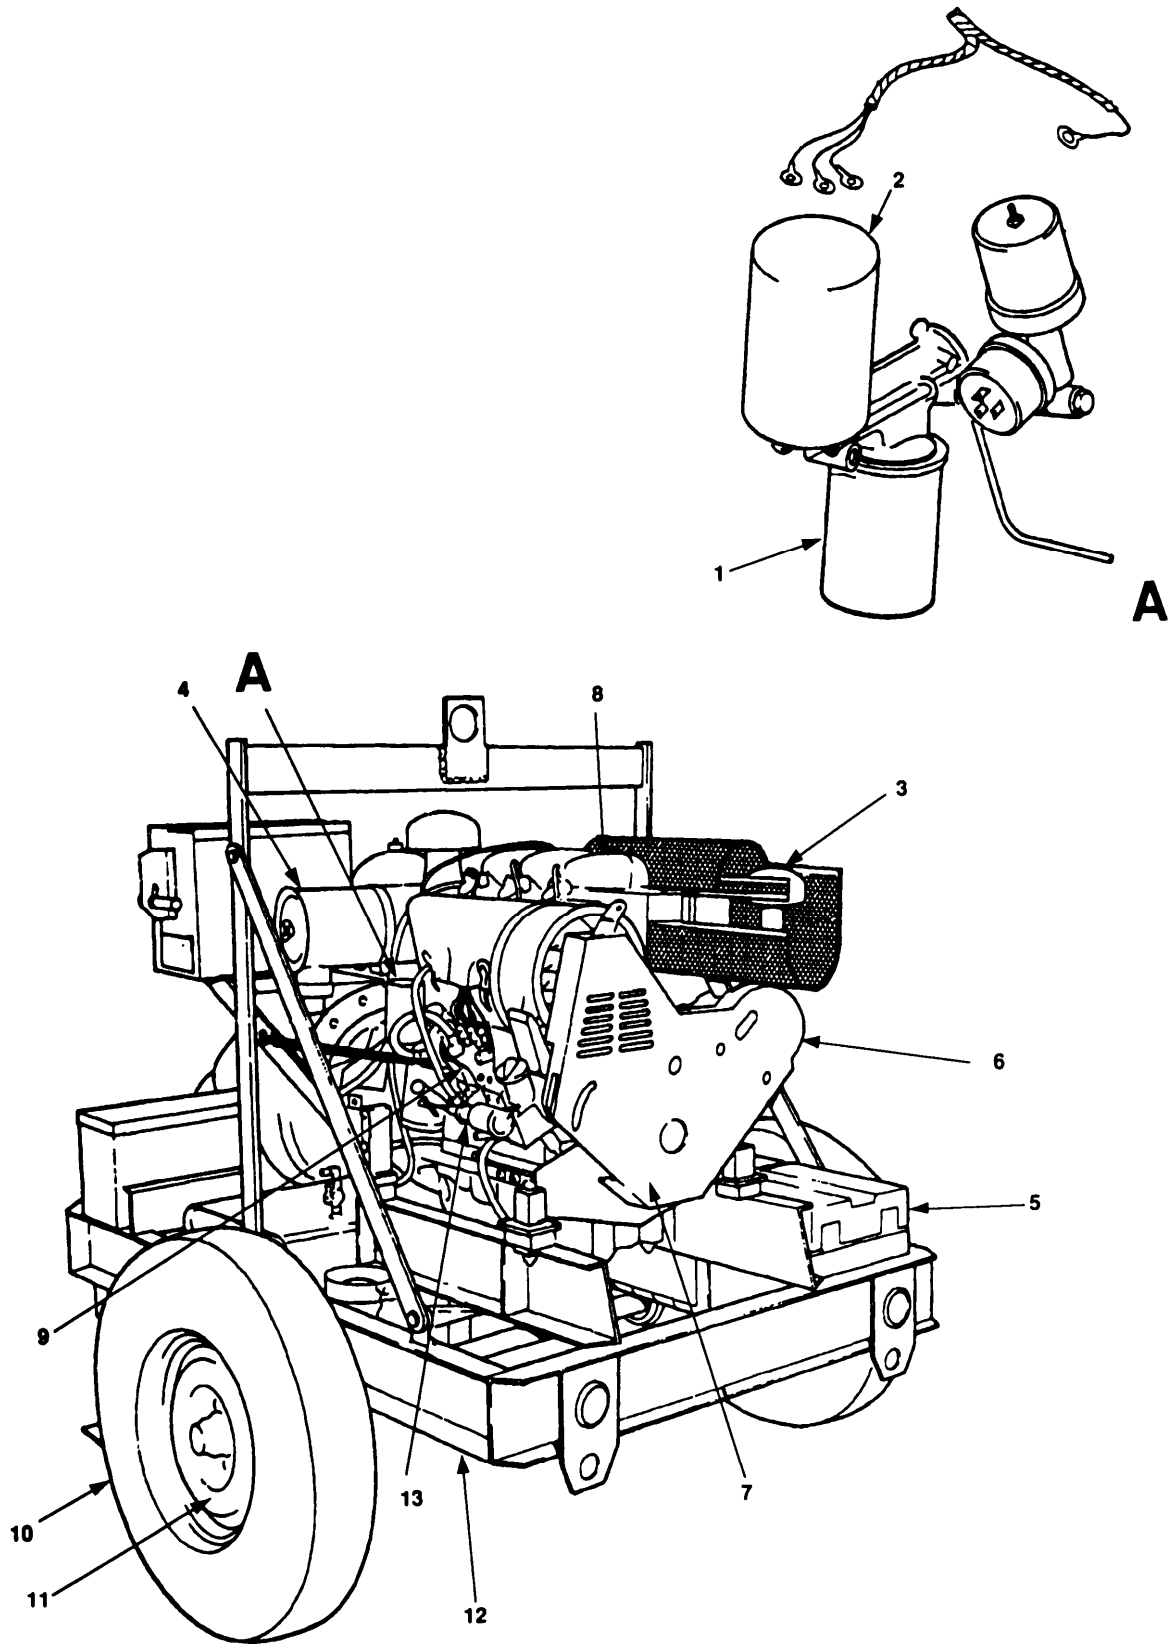

Figure 4-1. Unit PMCS Routing Diagram.
Figure 4-1 (PMCS routing diagram) and table 4-1 (PMCS table) have been provided so you can keep your equipment in good operating condition and ready for its primary mission.
4.7.2.1 Item No. column. Numbers in this column are for reference. When completing DA Form 2404 (Equipment Inspection and Maintenance Worksheet), include the item number for the check/service indicating a fault. Item numbers also appear in the order that you must do checks and services for the intervals listed. These item numbers also corresponds to the numbers on the routing diagram, figure 4-1.